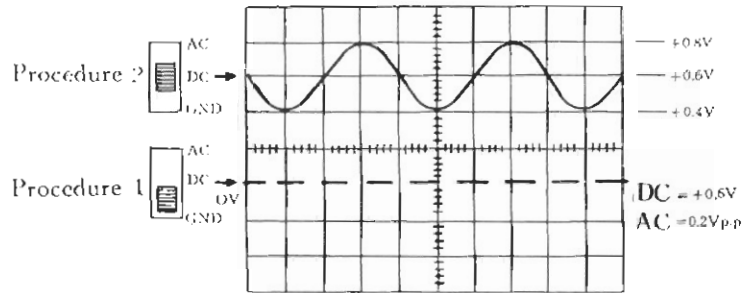

Fig. 3-6 Simultaneous DC and AC measurement.
2. An example with sine wave is shown in Fig. 3-6.